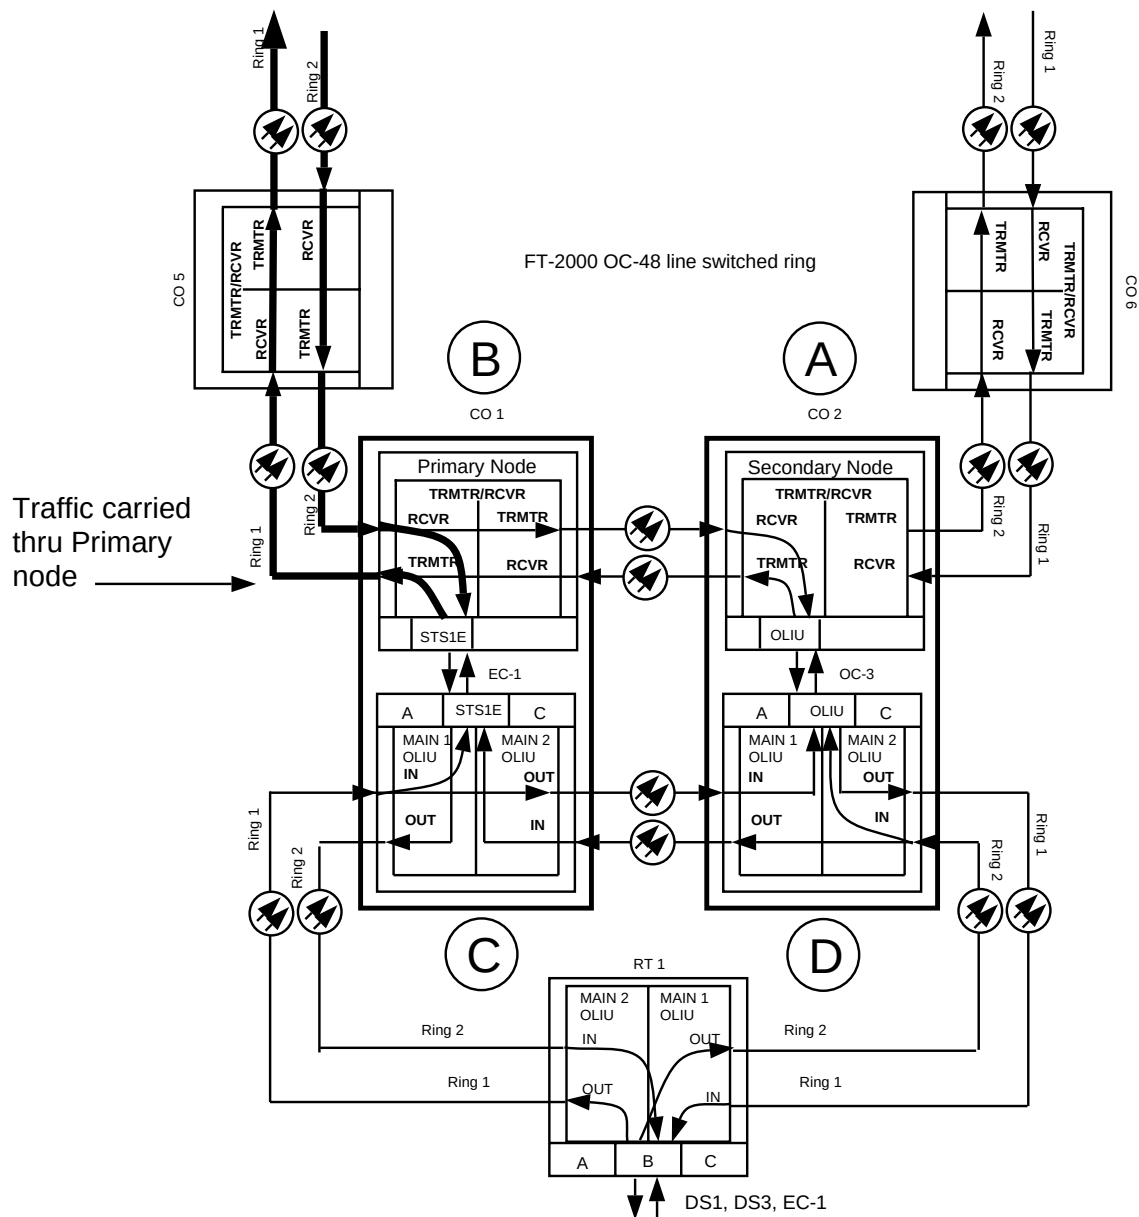

Figure 1. OC-3/OC-48 DRI Interworking
23. Install required **OLI**U(s) in the OC-3 node associated with the FT-2000 primary node (for example, node C in Figure 1). **DLP-504**
Determine the network configuration (for example, see Figure 1.)